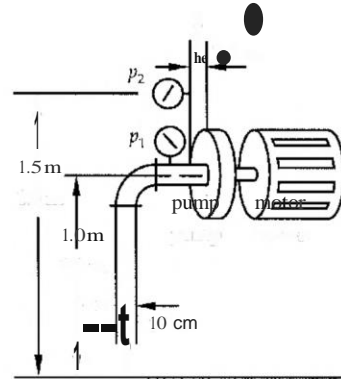

FIGURE P2.42.
42. A pump moving hexane is illustrated in Figure P2.42. The flow rate is 0.02 m³/s; inlet and outlet gage pressure readings are -4 kPa and 190 kPa, respectively. Determine the required power input to the fluid as it flows through the pump.